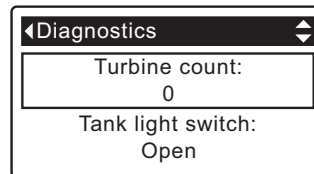

FIG. 86
2. Press the DOWN ▼ button to scroll through the list until **Turbine Count** is displayed (See Figure 86).